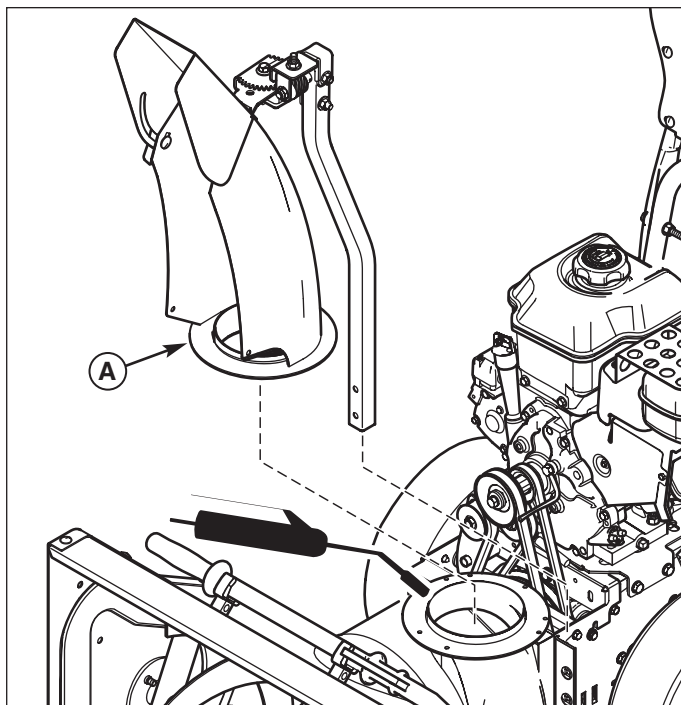

Figure 16. Chute and Rotator Removal
11. Lift the Chute and rotator (A, Figure 16) off of the auger housing.